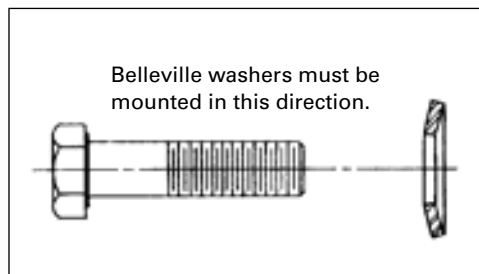
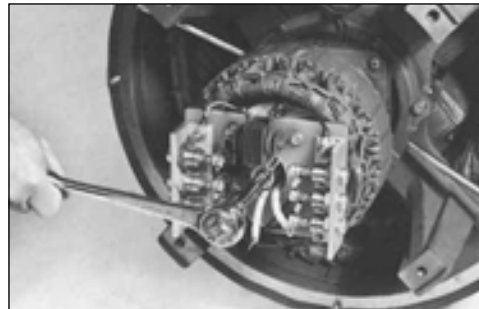
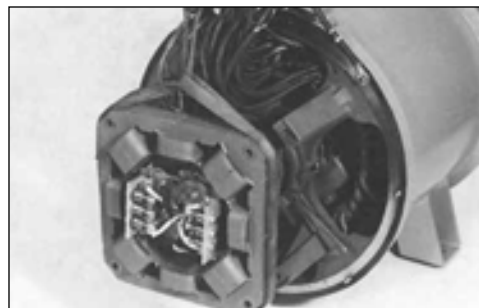

Figure 6-41
Figure 6-42
Figure 6-44
Insert the capscrew and belleville washer (figure 6-41) through the mounting hole in the aluminum standoff plate and secure to the shaft (figure 6-42). Tighten the capscrew until the armature seats on the shaft. Torque to 84 ft-lb (114 N-m) for 1/2" bolt or 300 ft-lb (407 N-m) for 3/4" bolt.
3. Position the exciter field leads at the left (9 o'clock) inboard position. Using a suitable lifting device, mount the exciter stator on the front end bracket mounting pads and align the mounting holes (figure 6-44). Mount with the capscrews and belleville washers (figure 6-41). Torque the cap-screws to 60 ft-lb (81 N-m). Route and secure the exciter stator leads away from any moving parts.